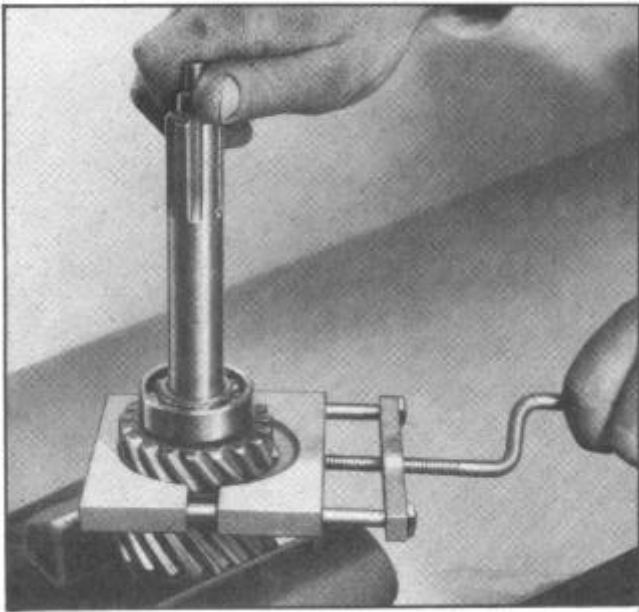

Figure 15--Installing Mainshaft
27. When assembling main drive gear and mainshaft intermediate gear, place intermediate gear (16) in vise the same as was done for the disassembling.
28. Install mainshaft intermediate gear rear (bakelite) thrust washer (18) in gear (16).
29. Install intermediate gear thrust washer retainer (19) on main drive gear (6) ahead of bearing journal.
30. Enter rear end of main drive gear into intermediate gear and install the front thrust washer (17) which is a split washer, with the babbitt face downward.
31. Center the retainer (19) so that the gap in the ring will be exactly a quarter turn away from the slots or openings in the intermediate gear.
32. Force the mainshaft intermediate gear thrust washer retainer into the groove using installing tool J-448-5, as shown in Figure 15.
35. Install mainshaft rear bearing (14) on mainshaft about one inch from the rear.
37. Install the mainshaft low and reverse gear retainer (20) in groove in mainshaft using wheel bearing grease to hold parts of ring in place.
38. With mainshaft held firmly against the thrust balls, place bearing installing tool J-779 shown in Figure 15 over